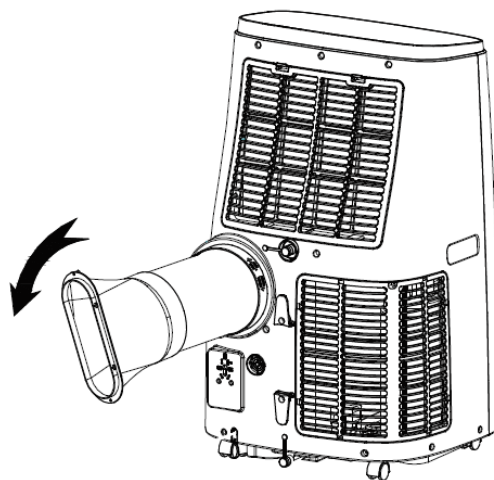

Figure 1
Install the heat pipe assembly (as shown in Fig.1)
- insert the heat pipe assembly (the end of the exhaust joint) into the back panel vent slot (push to the left) and complete the assembly (as shown in figure 1).